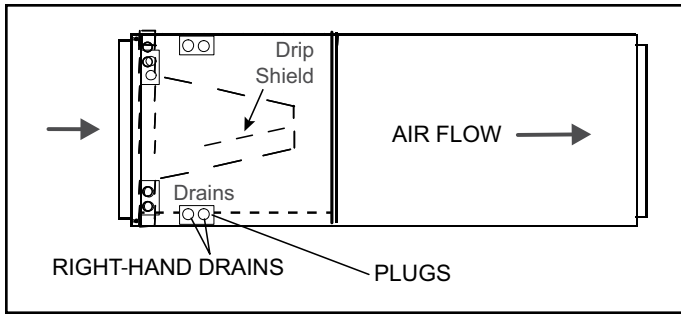

Figure 9. Right-Hand Discharge Configuration
4. The horizontal configuration is shown in Figure 9